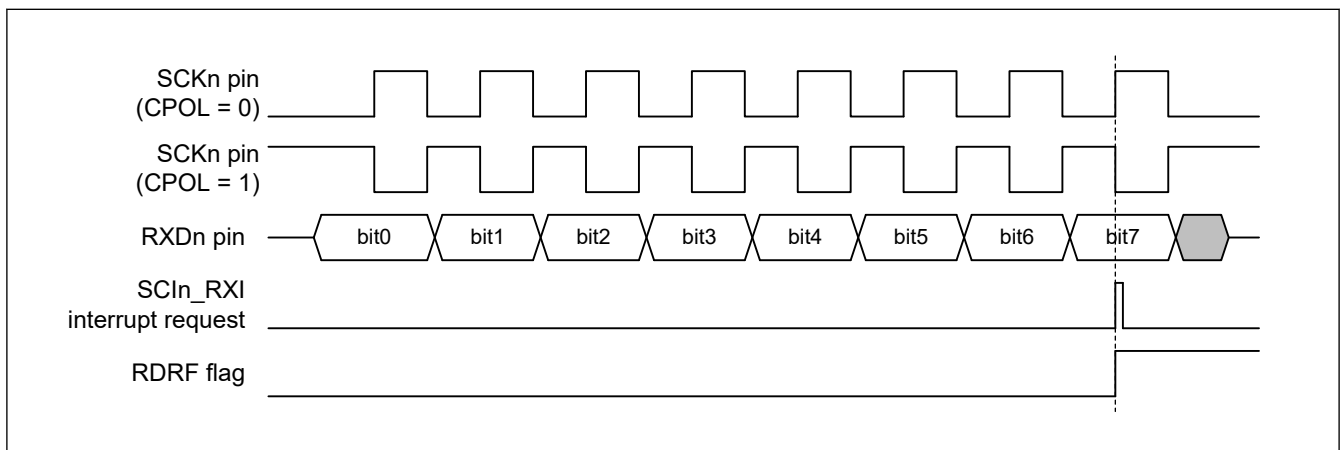

Figure 38.123 Timing of SCIn_RXI interrupt in simple SPI mode with clock delay
- For the clock delay setting (CCR3.CPHA bit is 0), the receive data full interrupt (SCIn_RXI) is generated before the final clock edge on the SCKn pin as indicated in Figure 38.123. If the TE and RE bits in the CCR0 register become 0 before the final edge of the clock signal on the SCKn pin, the SCKn pin is placed in the high-impedance state, so the width of the last clock pulse of the transfer clock is shortened. Additionally, an SCIn_RXI interrupt might lead to the input signal on the SSn pin of a connected slave going to the high level before the final edge of the clock signal on the SCKn pin, leading to incorrect operation of the slave.